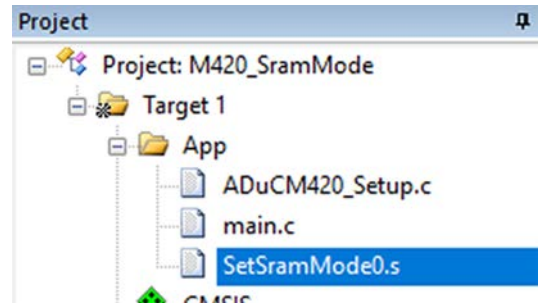

Figure 35. Set Up SetSramMode0.s
2. By default, the **M420\_SramMode** macro uses SRAM Mode 0. The **SetSramMode0.s** assembly file is added to the subdirectory as shown in Figure 35. Specify which SRAM mode to test in the **main.c** file. By default, SRAM Mode 0 is tested (see Figure 36).